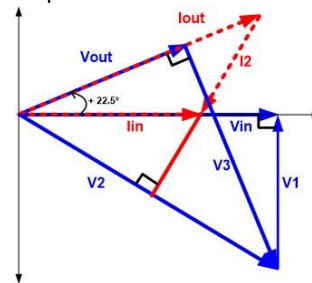

Figure 8: T-Network Phasor Diagram
Using (6) and that I_{in} is perpendicular to V₁, **Figure 8** illustrates the V₁ phasor.
Using **Figure 8**, each reactive element type can be determined. X3 is a capacitor because Iout is leading V3. But, X2 is an inductor because V2 is leading I2. Similarly, X1 is an inductor because V1 is leading Iin.